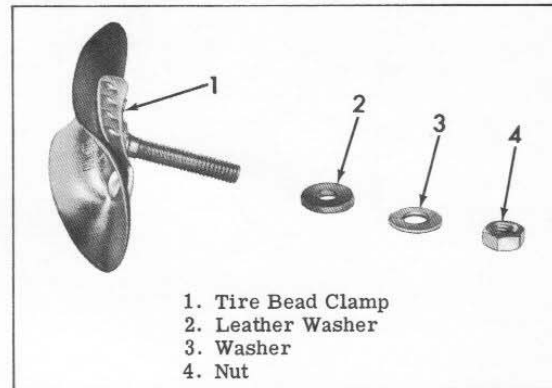

Figure 2.17. Tire Bead Clamp
When installing inner tube and tire on rim, make sure tire bead is between tire bead clamp and wheel rim. Also, make sure inner tube is not pinched between tire bead and tire bead clamp. Leather washer (2), Figure 2.17, washer (3) and nut (4) are assembled to stud on tire bead clamp on outside of rim. Nut (4) should be tightened securely.